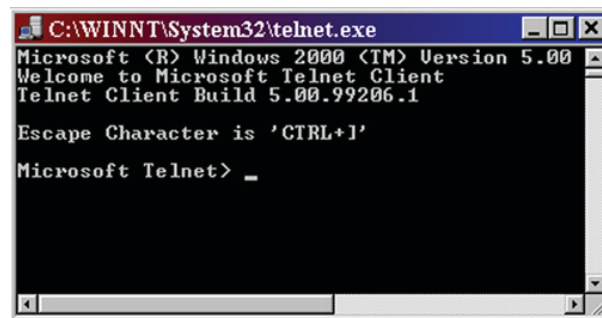

Figure 22. Telnet Command Prompt
3. Click **OK**. The Telnet program starts (figure 22).